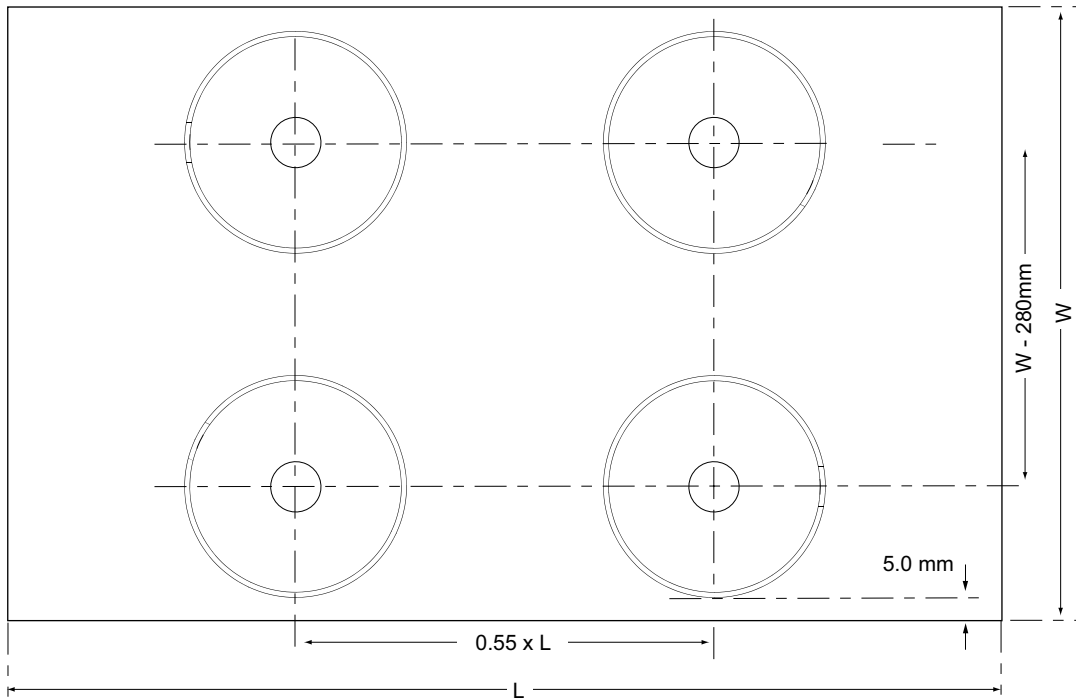

Fig. 2.2 Support positions
- 1) Position the supports in approximately the correct position for the table – see Fig. 2.2 for dimensions.